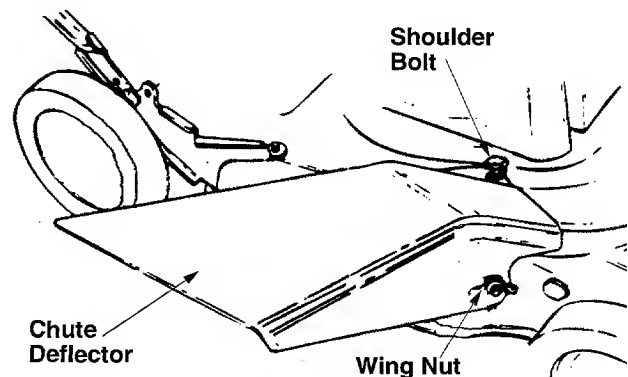
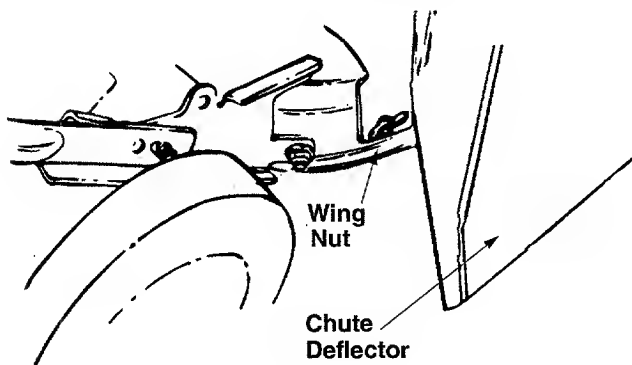

Figure 6
Figure 7
2. Attach the side chute deflector by first placing it over the rear bolt in the side of the deck. Then slide the notch in the top of the deflector around the shoulder bolt on top of the deck. Slide the notch in the side of the deflector around the front bolt in the side of the deck. See Figure 6.
3. Secure the front of the chute deflector to the bolt on the side of the deck with one wing nut. See Figure 6. Secure the back of the chute deflector in the same manner. See Figure 7.